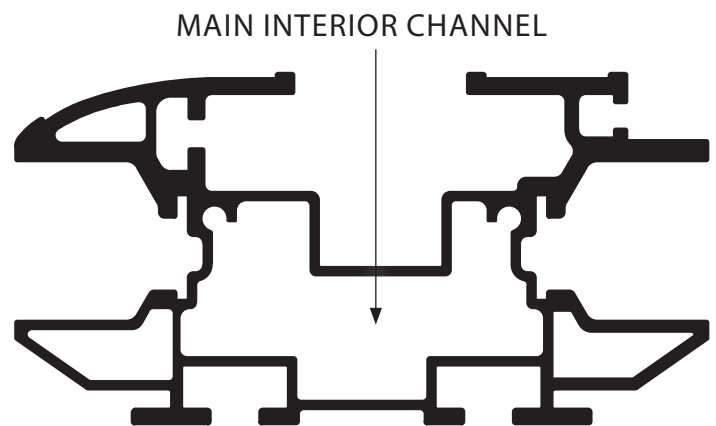

Figure 9-2
5. Replace charge strips in both ends of the rail routing the wire through the main interior channel. [Figure 9-2]